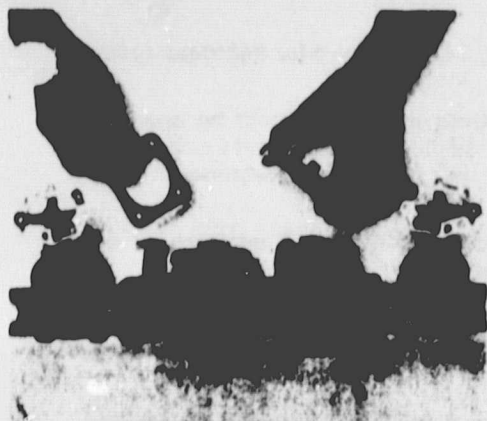

Figure 9
2. Remove square casting cover from top of Check Valve No. 1 chamber. (Figure 9.) Check Valve No. 1 is located on inlet side of unit.